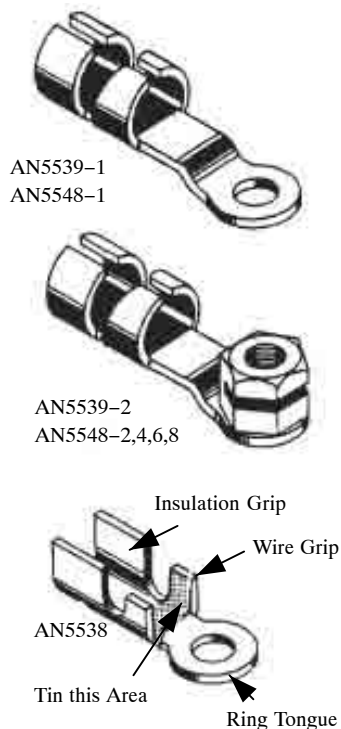

Figure 38 Thermocouple Terminals
52. **THERMOCOUPLE TERMINALS AND CONNECTOR.** Selection of terminals for thermocouple wiring is based on location within the airframe, and on temperature conditions (Figure 38). Hot areas are those subject to high temperature, such as engine section, exhaust pipe, etc. Cool areas are those on the side of the firewall away from the engine or other heat producing elements. Where the temperature does not exceed 250°F, use terminals listed in Table 7. Dash letters after basic numbers indicate whether terminal is plain or lock type, except for AN 5538, where dash number indicates change in size only.